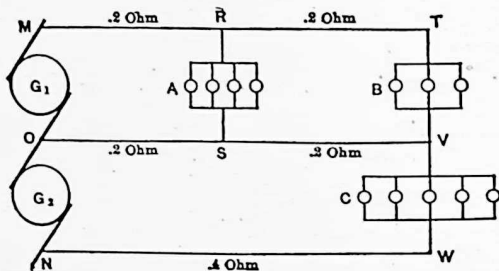

FIG. 99.
**Prob. 117.** Assume that each lamp in Fig. 99 takes 2 amperes, and that the resistance of the lamps remains constant. The brush potential of each generator is 112 volts. Find—